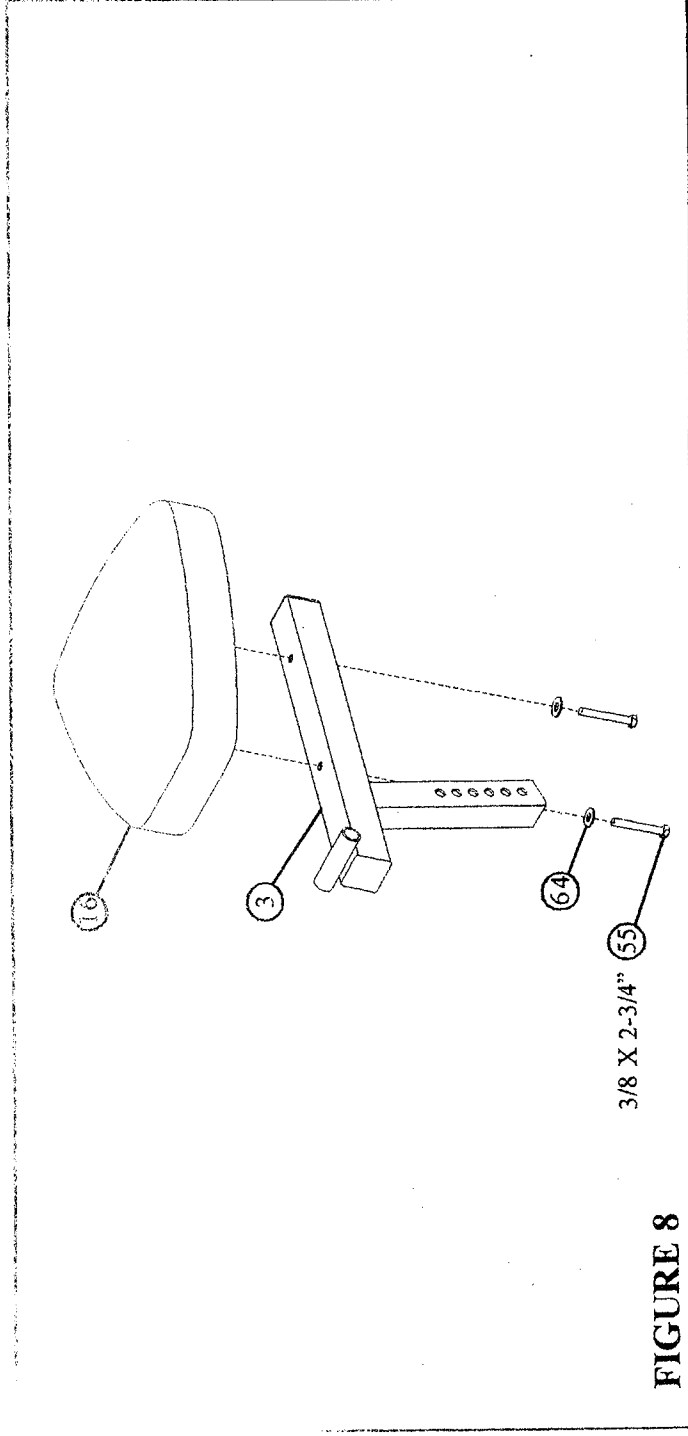

FIGURE 8
- **SECURELY** assemble one SEAT PAD (16) to the SEAT ADJUST (3) using two 3/8 X 2-3/4" BOLTS (55) and two 3/8" WASHERS (64). See FIGURE 8.